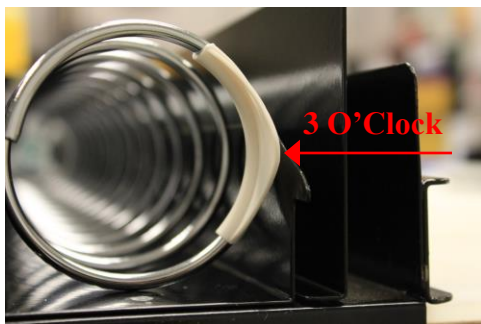

Figure 18C
Supplied with the 5-wide Gum & Mint tray are 5 black product pushers (VE444A), one will be a spare. Product pushers **MUST** be installed for every product except Certs, as shown in Figure 18C.
53. Place the product pusher so the tip is at 3 o'clock (Red Arrow, Figure 18C)